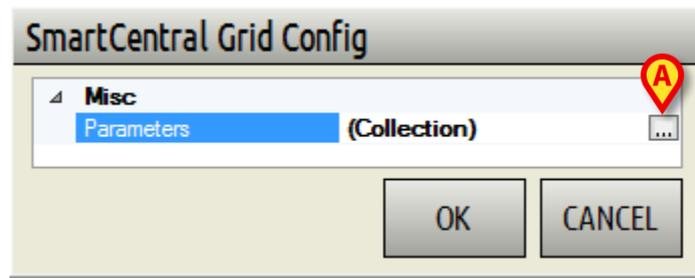
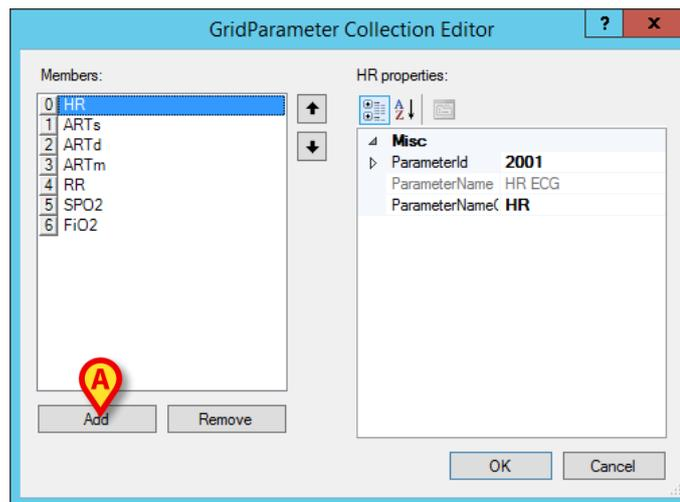
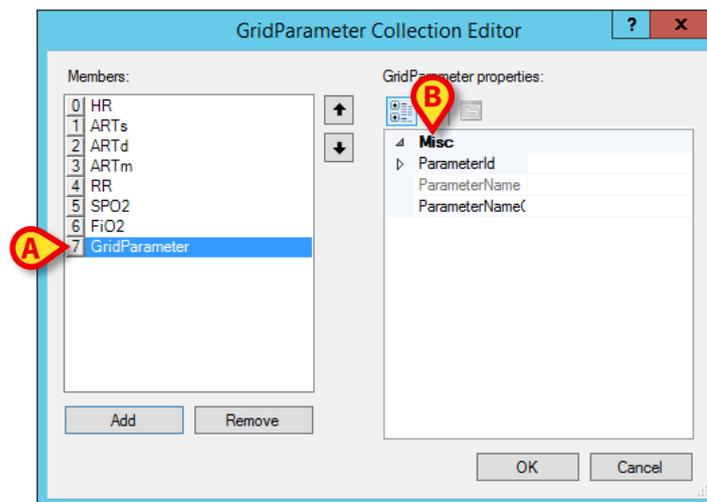

Fig 45
Fig 46
Fig 47
3. Click the "Parameters" row (Fig 44 **A**). A button is this way displayed on the right (Fig 45 **A**).
4. Click the button indicated in Fig 45 **A**. The following window opens (Fig 46).
5. Click the **Add** button (Fig 46 **A**). A new Parameter is this way added (Fig 47 **A**).
The item properties will be displayed on the right (Fig 47 **B** - empty at the moment).